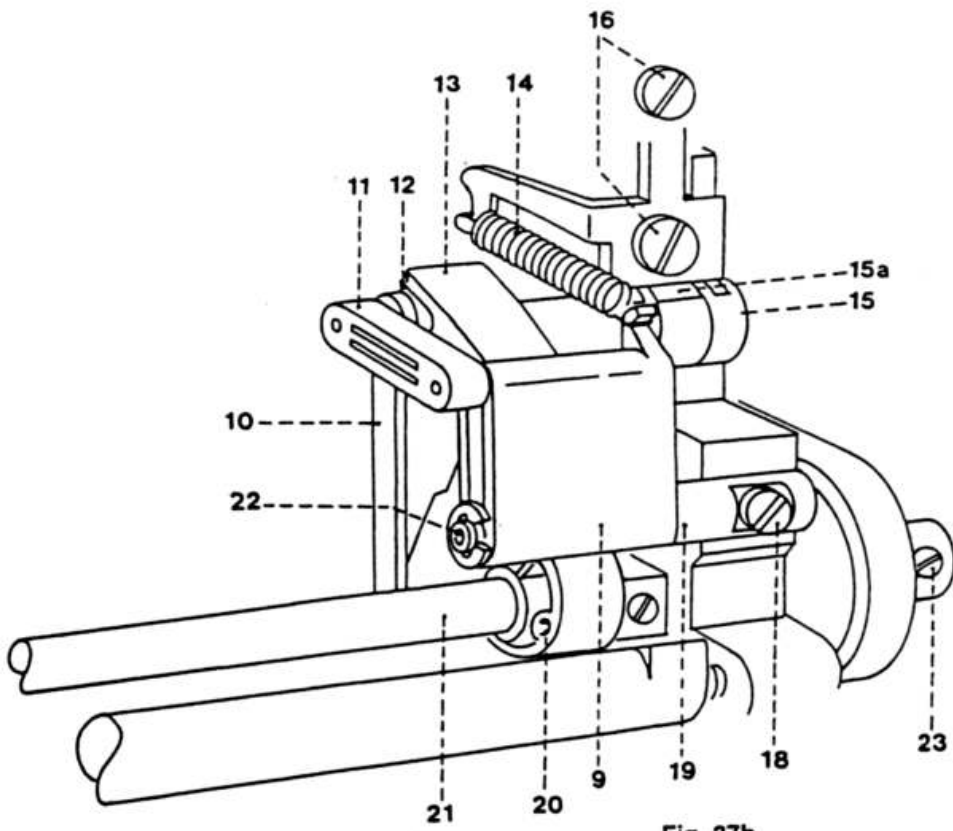

Fig. 37b
- Disconnect pull-spring 14 (fig. 37b).
- Insert the new feed stepping motor complete with bracket (fig. 37b).